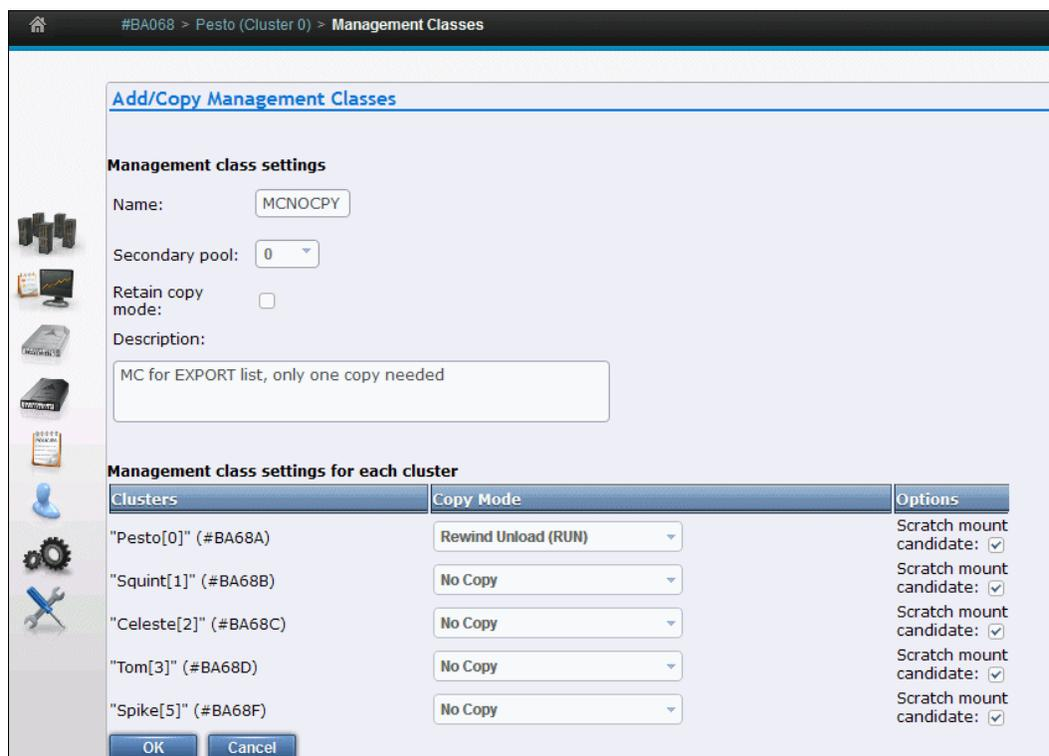

Figure 12-3 Management Class settings for the export list volume
To begin the Copy Export process, create an export list volume that provides the TS7700 with information about which data to export and the options to use during the operation (Figure 12-3 on page 767).
Figure 12-3 shows the setting of an MC on the MI for the export list volume in a multi-cluster grid configuration. RN means one copy locally at RUN (R) and no copy (NN) on the other cluster.